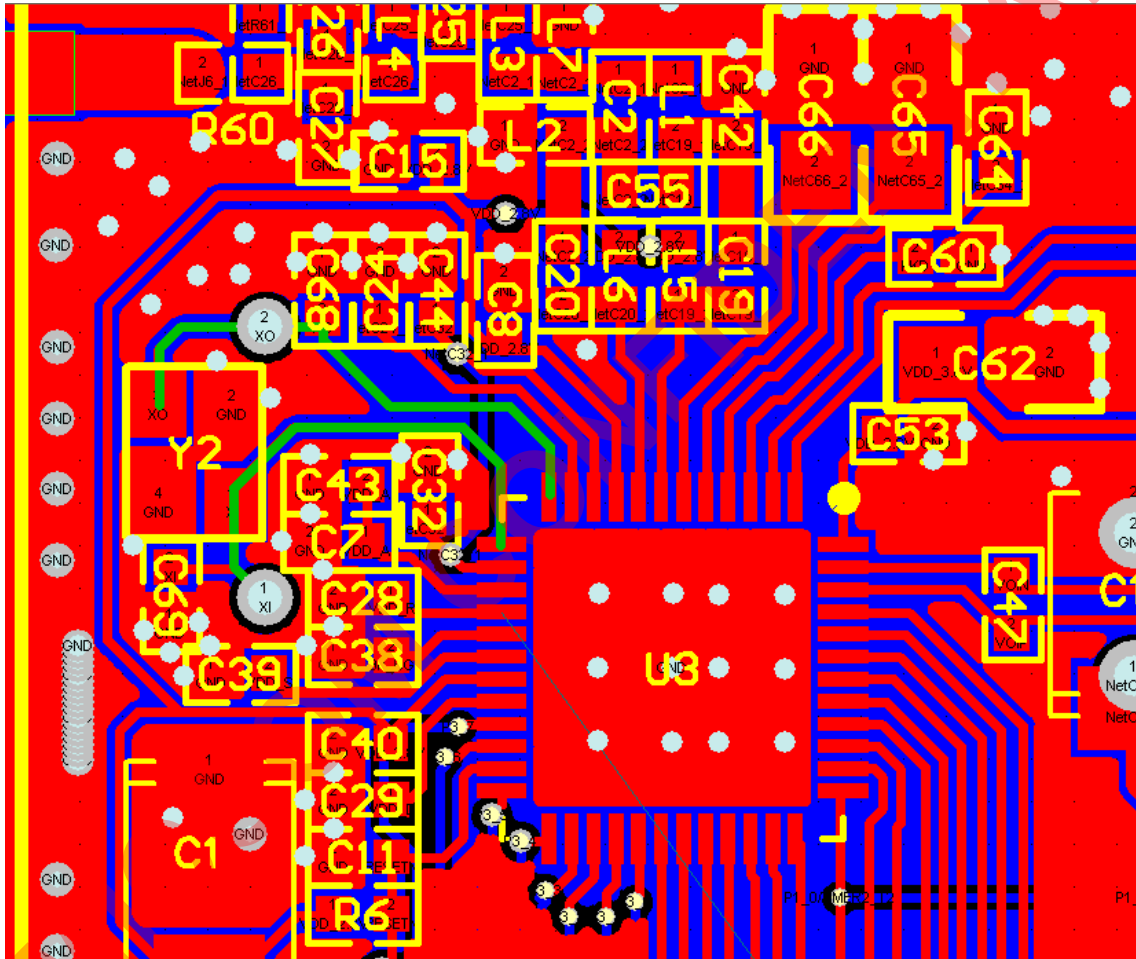

Fig. 2.2c X'tal trace (green)
3. The bypass capacitors (C7, C8, C28, C29, C32, C38, C39, C40, C43, C44, C53, C60, C62, C64, C65, C66) should be very close the IC pins, and the ground via also should be very close the ground pad. Please refer to Fig. 2.2c.
4. The loop filter (C24) should be close to pin 11 of A8101 IC. Please refer to Fig. 2.2c.
5. The X'tal traces should be as short as possible and are better to be isolated by ground via. Please refer to the green traces in Fig. 2.2c.